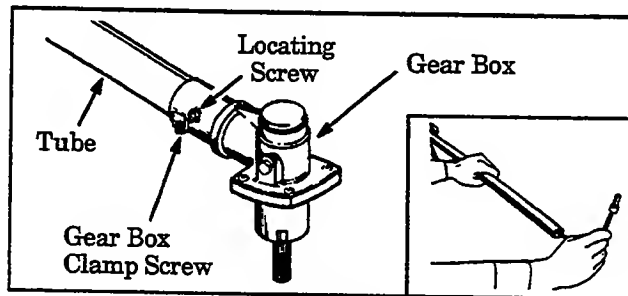

Figure 23
1. Remove the gear box clamp screw and the locating screw from the gear box. Figure 23.
2. Remove gear box from the tube. Figure 23.
3. Remove the drive shaft from the tube. Figure 23 (inset).
8. Reinstall the drive shaft in the tube. Figure 23 (inset).